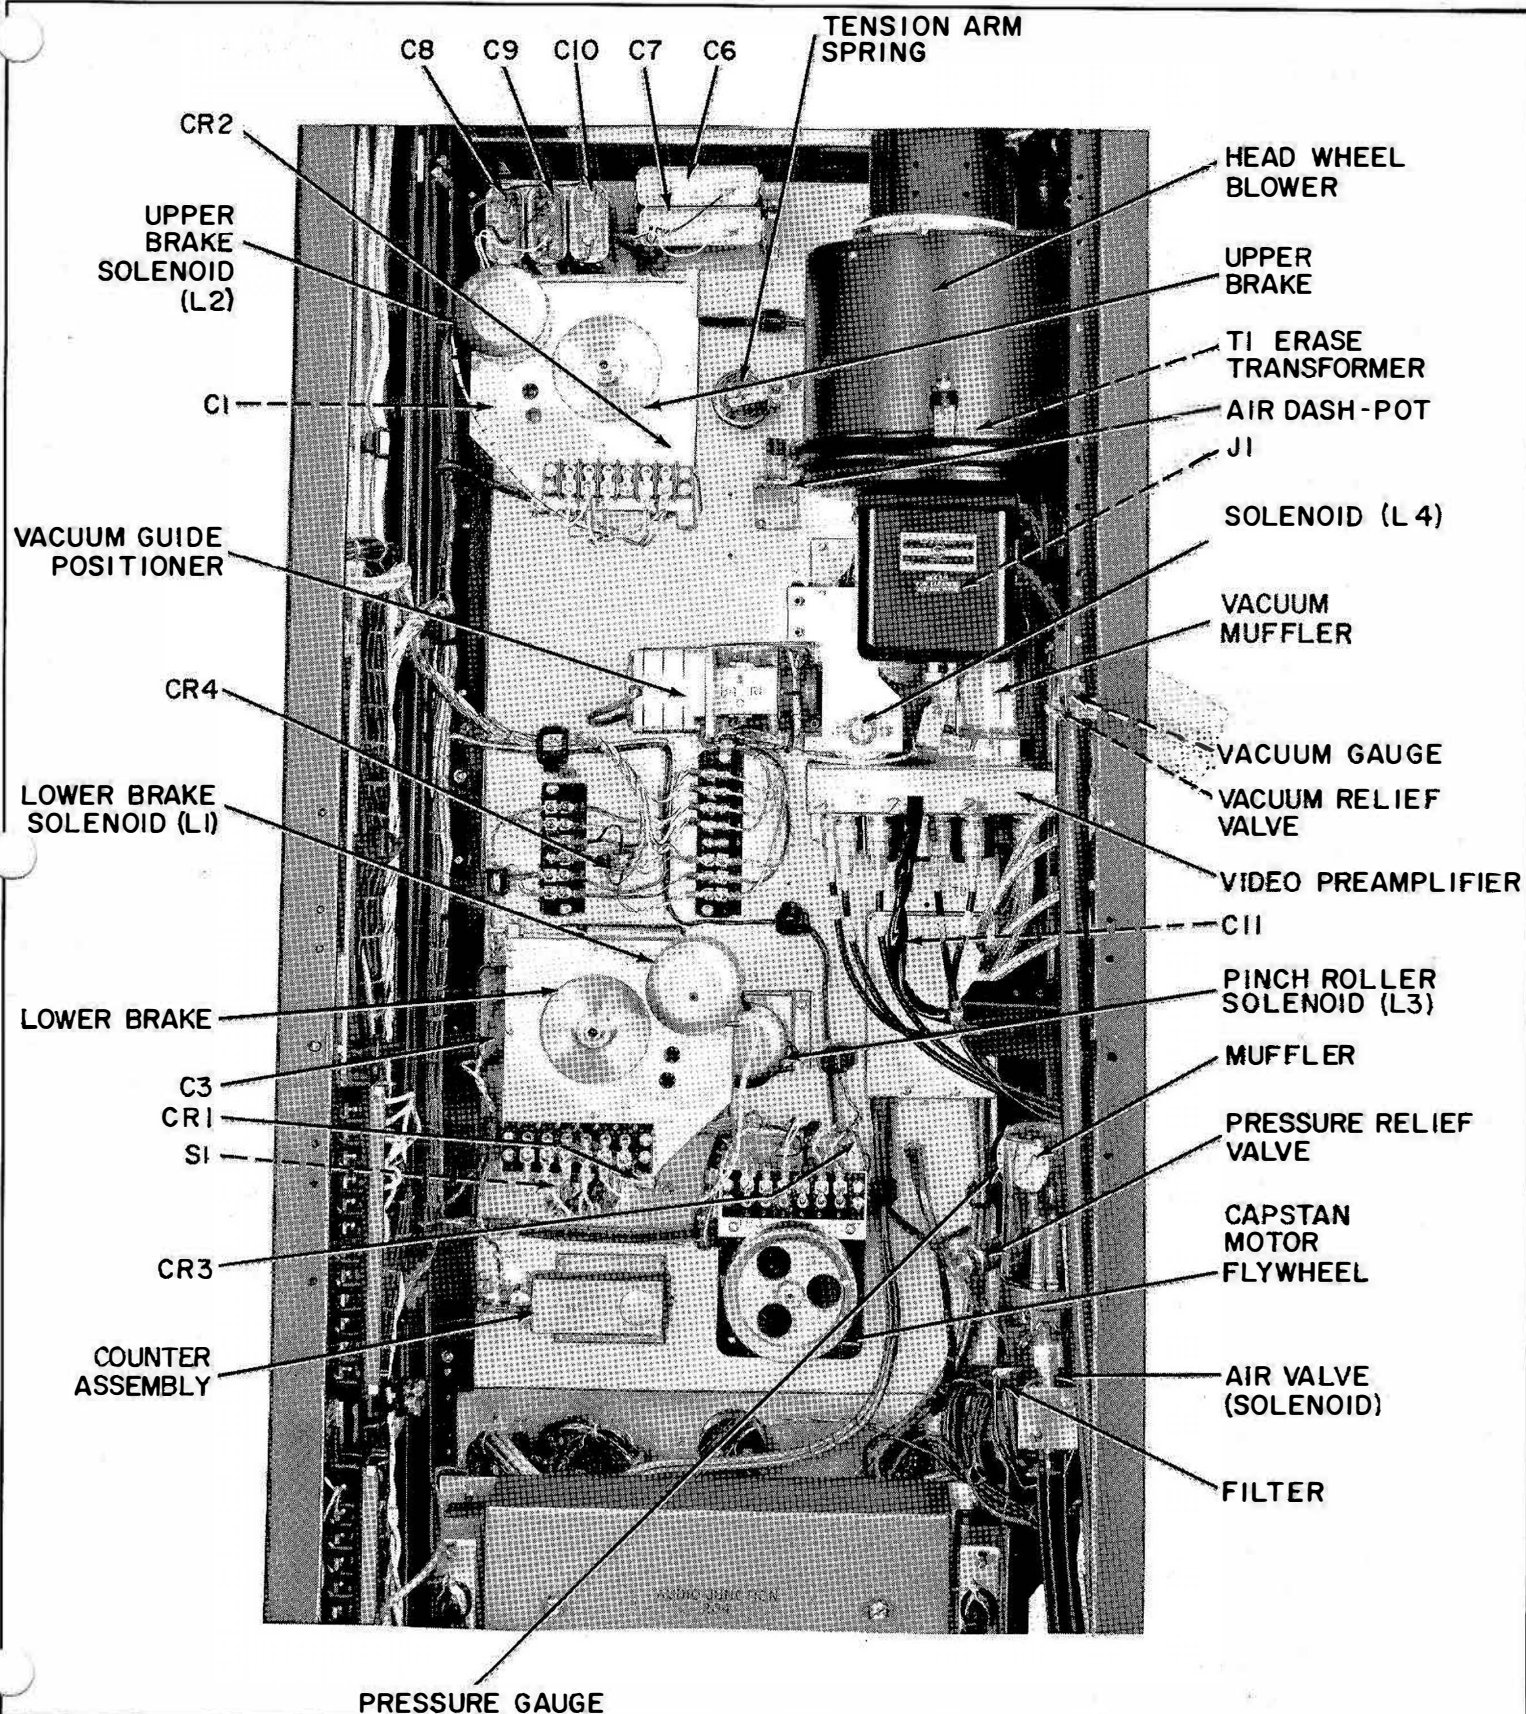

Figure TTP-2. Tape Transport Panel—Rear View
The reel-motor, hub, and brake assemblies (figs. TTP-2, TTP-5, and TTP-8) are key units in the handling of tape. The reel motors supply power to hold back or take up the tape. The hub assembly supports the reel and tape, and the brakes operate to bring the reels to a safe stop.
The headwheel blower (unit 208) located on the rear of the tape transport panel (fig. TTP-2) is used for cleaning and cooling of the headwheel assembly. A permanently lubricated ball-bearing motor drives a multi-stage blower which draws the air from the headwheel panel over an oil-wetted wire filter. This filter removed the dust and lint collected from the tape and headwheel.
The vacuum guide positioner assembly (figs. TTP-2, TTP-11, and TTP-12) is the actuator for the vacuum guide position control system. It consists of a phase controlled servo motor gear coupled to a lead screw and a three-turn error potentiometer. The axial location of the lead screw establishes, through a linkage mechanism on the headwheel panel, the position of the vacuum guide. The error potentiometer is so coupled that the amount of resistance seen at the center tap is proportional to the position of the lead screw. This potentiometer functions only when the system is in the manual mode of operation; in the automatic position it is out of the circuit. The ratio of coupling is such that approximately 2.94 turns of the potentiometer give .005 inch movement of the guide. In the manual mode of operation the mechanism is electrically limited to this amount of rotation by means of a bridge control circuit. In the automatic mode of operation, the total excursion is limited only by the mechanical stops on the potentiometer. This potentiometer has a 90-degree over-travel at each end so that the total excursion in the automatic mode is  $3\frac{1}{2}$  turns of the potentiometer.
**Air and Vacuum Relief Valves.** Check and adjust the air and vacuum relief valves [figs. TTP-2 and AP-2 (UNIT 509)] as follows:
**Air and Vacuum Relief Valves.** These two relief valves (see fig. TTP-2 and fig. AP-2, unit 509) should be removed, disassembled, and cleaned with a solvent such as Chlorothene or Freon TF at least once every six months. After cleaning, reassemble and install the valves in their proper location. Adjust the relief valves as outlined under Adjustments page TTP-4.
With the air pump (unit 509) stopped, remove the filter and muffler jars (fig. TTP-2) and empty out the entrapped solids. Remove the filter elements and wash them in a solvent such as Freon TF, alcohol, or Chlorothene. When the filter elements are clean and dry replace them carefully.